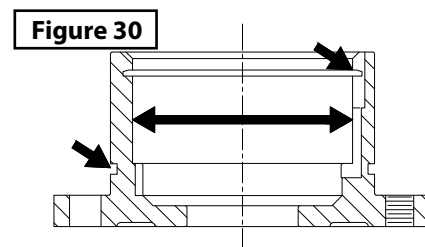

Figure 30
- ÿ Check the bearing seat according to the "Table for bearing adjustment and tolerances", replace if values exceed those listed in the table (see Figure 30).